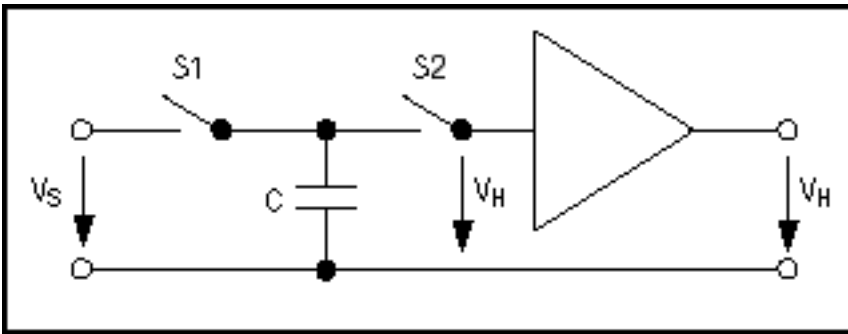

Figure 7. A typical track/hold function requires precise control of the analog switches.
A track/hold amplifier, which maintains a constant analog output during conversion by an A/D converter, offers a good example of this (**Figure 7**). Closing S1 charges the small buffer capacitor (C) to the input voltage (V_S). The value of C is only a few picofarads, and V_S remains stored on C when S1 opens. The held voltage (V_H) is applied to the buffer by closing S2 at the beginning of a conversion. The high-impedance buffer then maintains V_H constant over the ADC's conversion time. For short acquisition times, the track/hold's capacitor must be small and S1's on-resistance must be low. On the other hand, charge injection can cause V_H to change by $\pm\Delta V_{OUT}$ (a few millivolts), thereby affecting the accuracy of the following ADC.